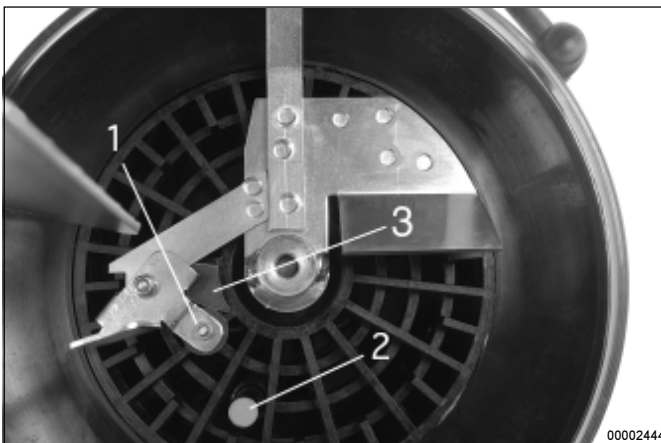

Fig. 16 - Switching parts of the low-level control
- Due to the rotating motion of the stirring paddle in the lubricant the pivoting guiding plate with the round solenoid, item 1 Fig.16, is pressed backwards. The solenoid moves toward the center of rotation of the stirring paddle. The electromagnetic switch item 2 **cannot** be activated.
- Control cam item 3 guides the round solenoid with the pivoting guiding plate automatically outwards, in the direction of the reservoir wall. After the lubricant has left the control cam, it flows against the guiding plate, thus displacing the solenoid again onto the center of rotation of the stirring paddle.